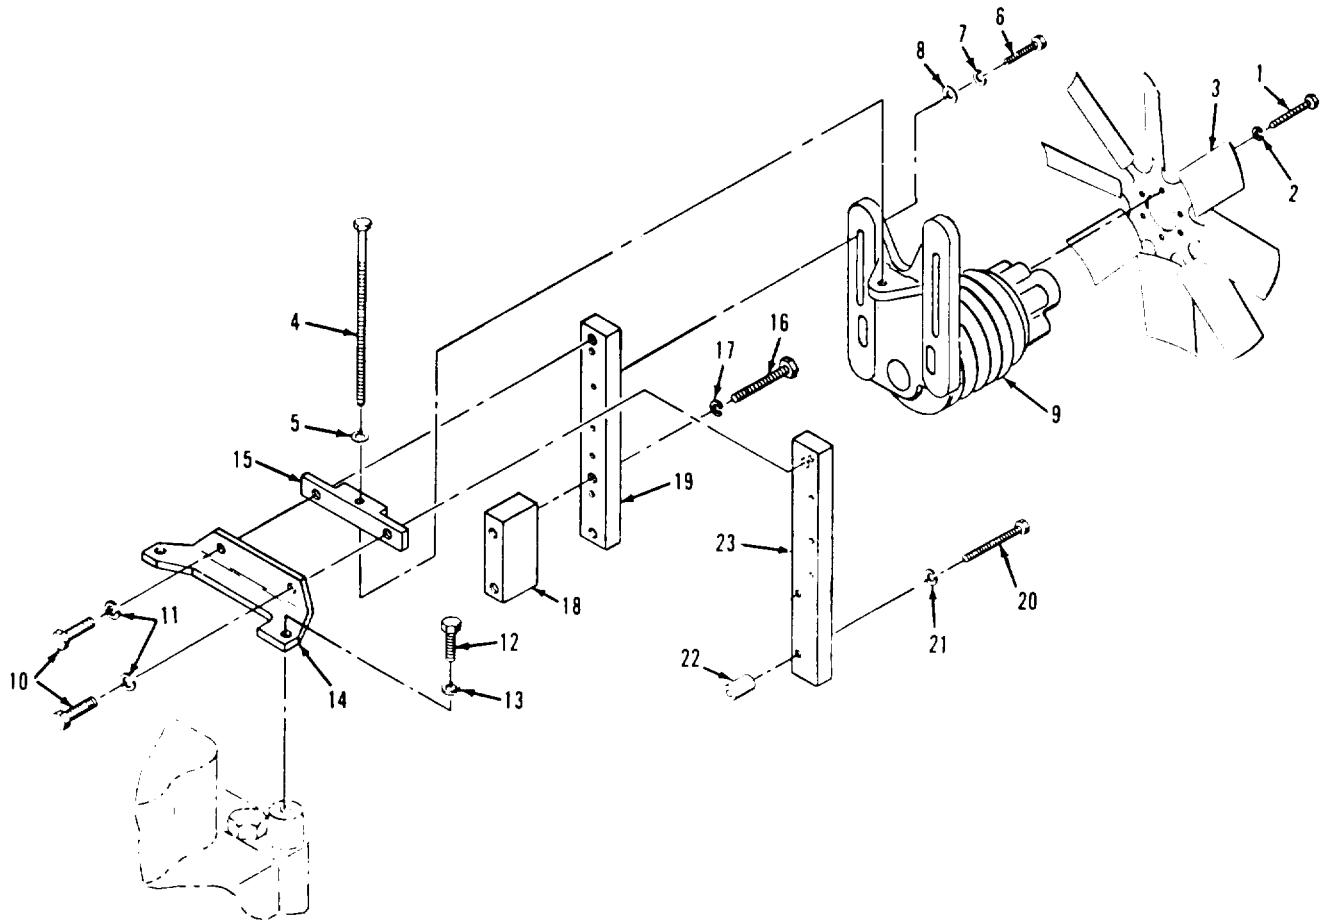

Figure 8-10. Fan and fan drive group, removal and installation
b. Refer to figure 8-10 and remove fan and fan drive in the order of index numbers assigned.
Legend to figure 8-10:
Refer to figure 8-10 and install fan drive group in reverse order of index numbers assigned. Pay particular attention to the following.
a. Before installing fan drive assembly (9, figure 8-10), place fan belts and alternator belt on crankshaft pulley and fan drive pulley.